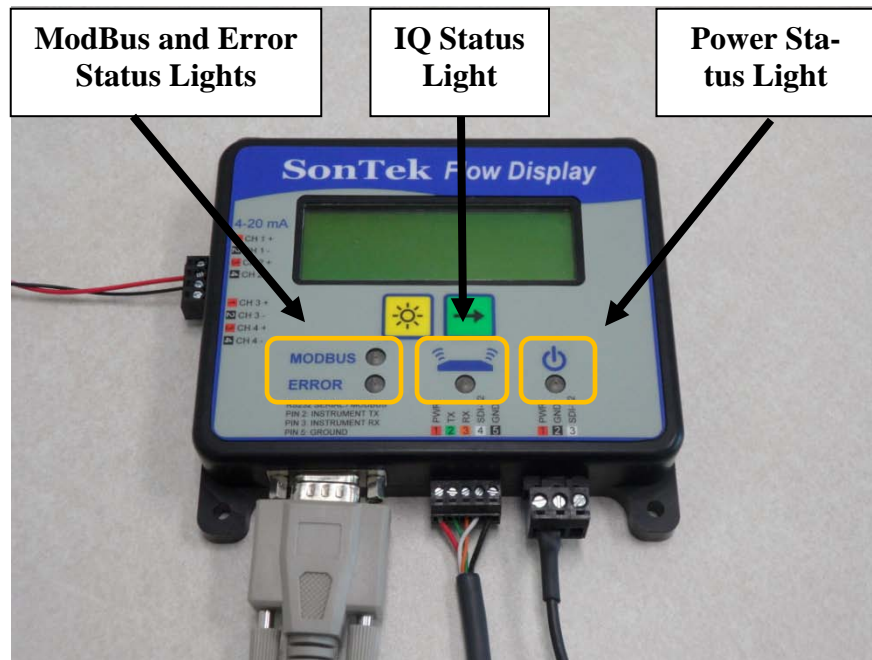

Figure D2. SonTek-IQ Flow Display with analog outputs
- Figure D2 shows the connection of the IQ to the Flow Display.
- It is important to note that there are two options for the Flow Display – a standard version and one with four channels of analog outputs (Figure D2).